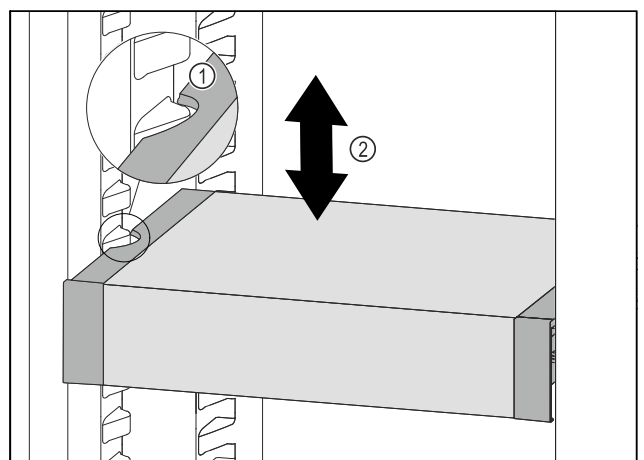

Fig. 118
- Pull VarioSafe forwards until the recesses in the side of the VarioSafe are at the level of the support rib in the refrigerator compartment. Fig. 118 (1)
- Move VarioSafe up or down in the refrigerator compartment until the desired height is reached. Fig. 118 (2)